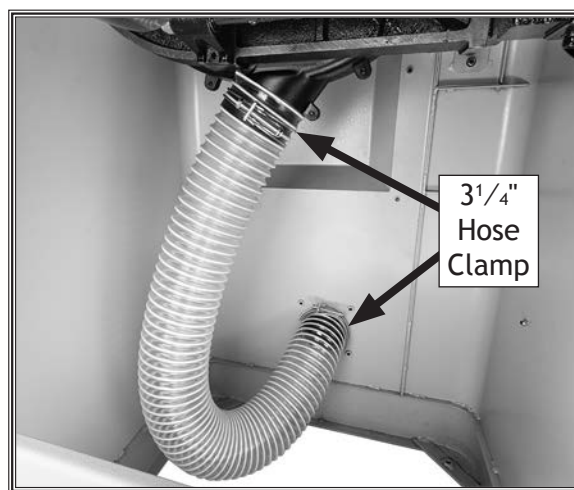

Figure 32. Dust hose connected inside cabinet.
30. Place 3¹/₄" hose clamps over each end of 3" dust hose, then attach 3" dust hose to dust chute and dust port inside cabinet (see **Figure 32**).